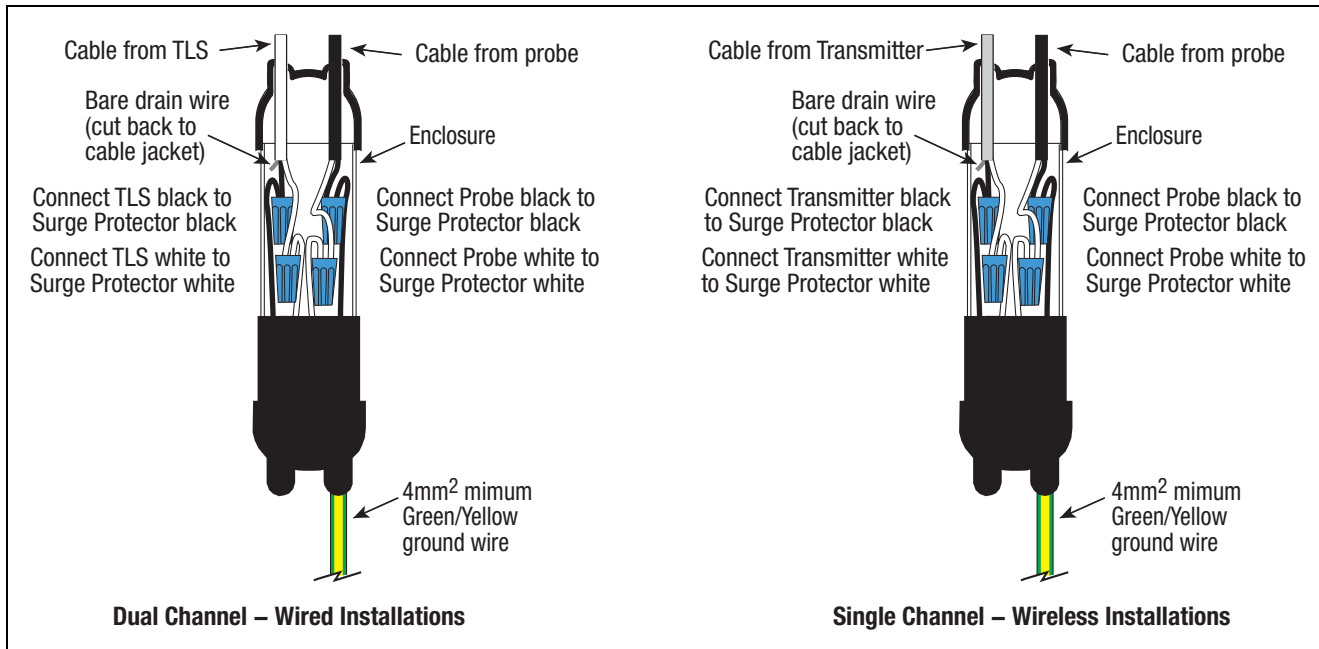

Figure 5. Splice Connections
2. Make the connections to the four black and white wires in the surge protector using wire nuts as shown in Figure 5. Depending on the installation, cut off the TLS console or Transmitter cable's bare shield wire at the cable jacket.